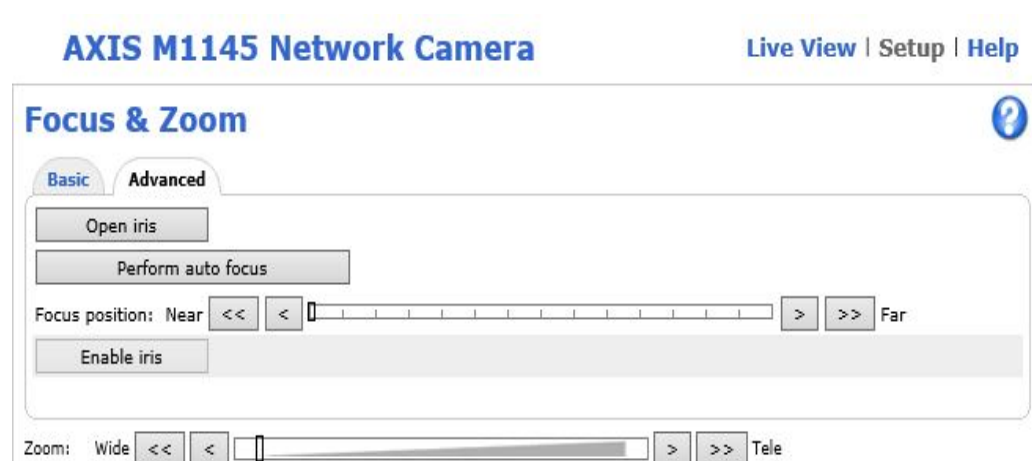

Figure 5.8 – Remote Zoom control of the ExCam IPM1145-L
Parametrization measures at the lens of the ExCam IPM1145-(L) are exclusively done via the Web Interface or the visualization software. Mechanical adjustments at the varifocal lens by the user are not possible. The camera models ExCam IPM1145 and ExCam IPM1145-L dispose of a so called „remote Zoom“ functionality (q.v. figure 5.8)